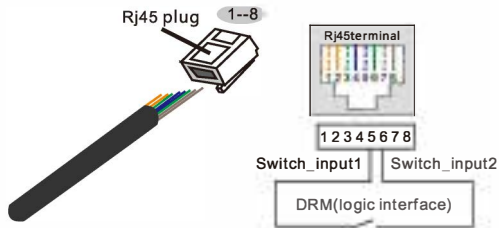

Figure 4.13 Strip the insulation layer and connect to RJ45 plug
2.Use the network wire stripper to strip the insulation layer of the communication cable. According to the standard line sequence of figure 4.13 connect the wire to the plug of RJ45, and then use a network cable crimping tool to make it tight.